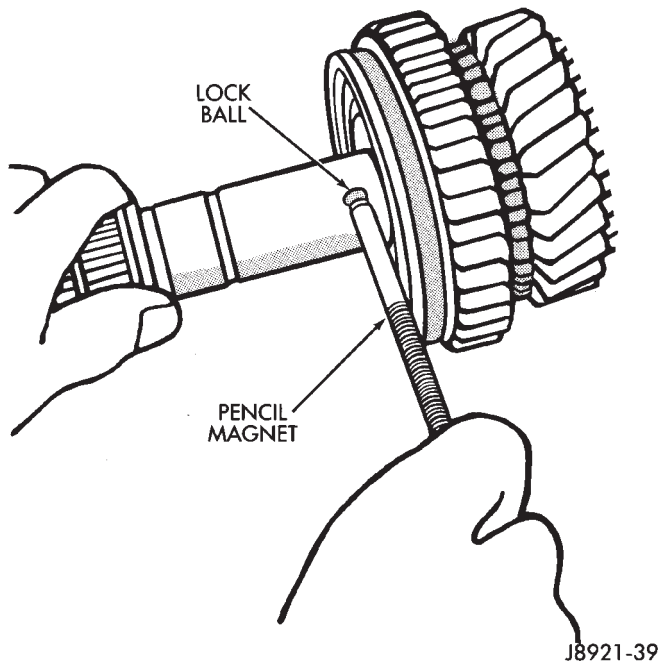

Fig. 104 Remove First Gear Bearing Inner Race Lock Ball
(6) Remove first gear bearing inner race lock ball with pencil magnet (Fig. 104).